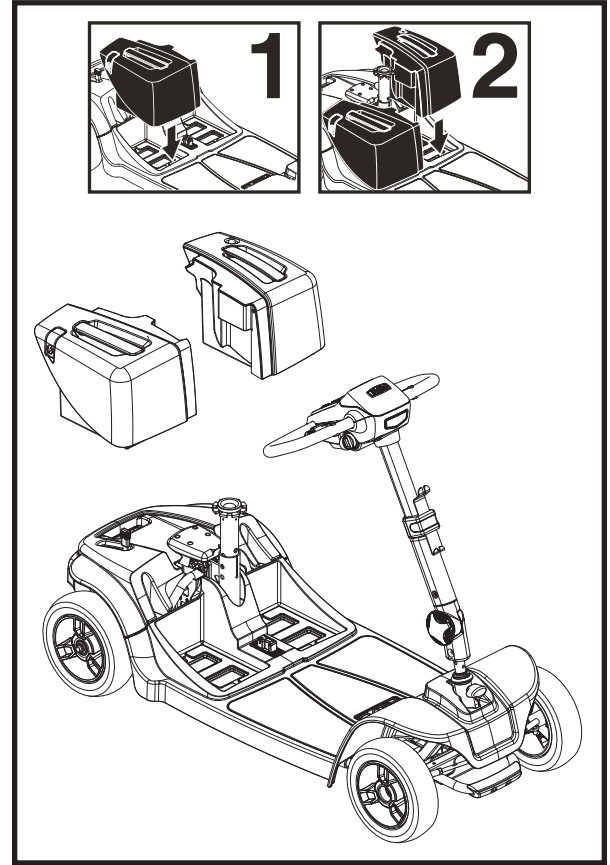

Figure 25. Battery Box Installation of models 66 and 67
12. Reinstall the battery packs onto the scooter and engage the battery pack locks. Always reinstall the right side battery pack first. See figure 25.